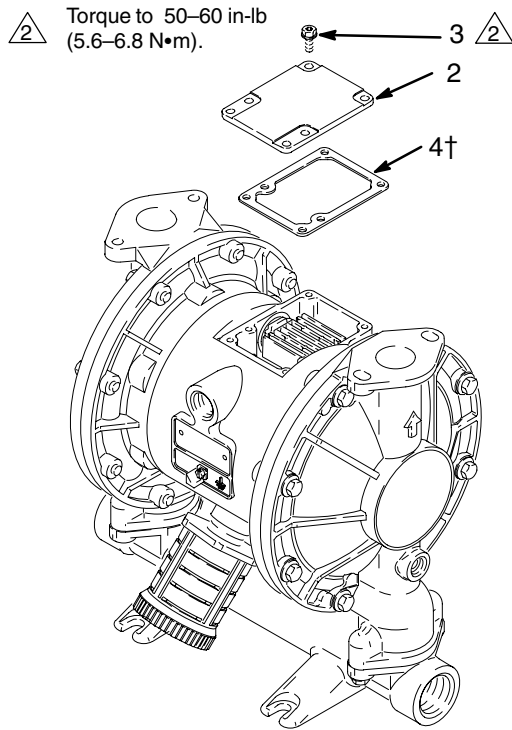

Fig. 8
2. With a Torx (T20) screwdriver or 7 mm (9/32") socket wrench, remove the six screws (3), air valve cover (2), and gasket (4). See Fig. 8.
10. Align the valve gasket (4†) and cover (2) with the six holes in the center housing (1). Secure with six screws (3), using a Torx (T20) screwdriver or 7 mm (9/32") socket wrench. Torque to 50–60 in-lb (5.6–6.8 N.m). See Fig. 8.